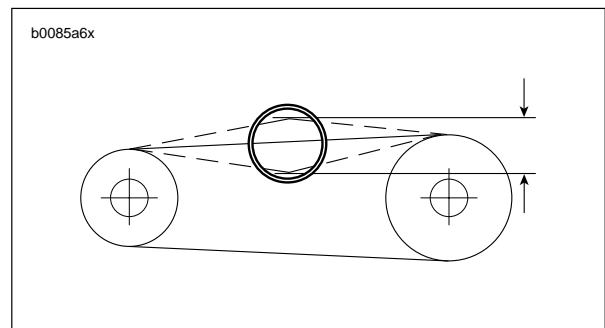

Figure 1-28. Measuring Primary Chain Tension
2. See Figure 1-28. Check primary chain tension by measuring vertical free play.